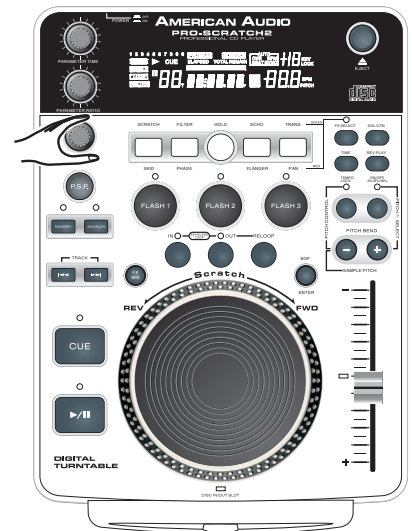

Figure 14
REPLAY LOOP - The *RELOOP* (31) function allows you to return to your stored loop at any time. The *IN BUTTON* (14) and *OUT BUTTON* (32) LEDs will indicate a loop is stored in memory, and may be played at any time. To replay the loop, press the *RELOOP BUTTON* (31). The *IN BUTTON* (14) and *OUT BUTTON* (32) LEDs will again begin to flash indicating SEAMLESS LOOP mode has been activated (Figure 14) and your stored loop will immediately begin to play.